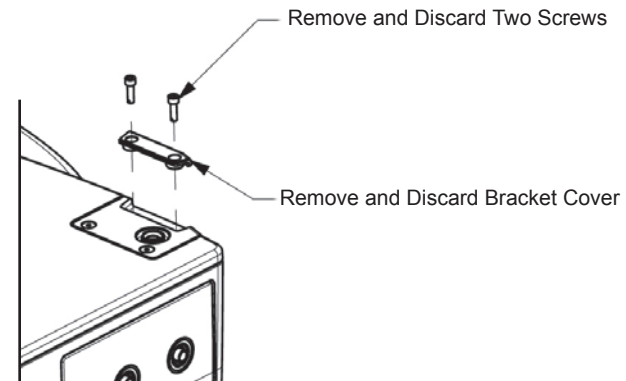

Figure 7-5. Bracket Removal
13. Remove and discard bracket cover and two screws from side of base console (see Figure 7-5).